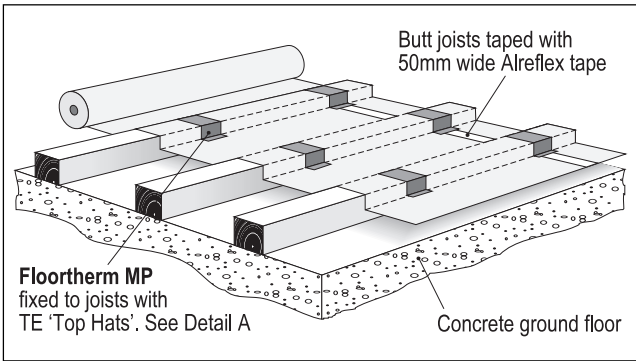

Fig. 2
B ACROSS BATTENS (see fig. 2)
- 10) As shown in Detail 'A' Floortherm MP is installed over the battens, fixed with the special TE 'Top Hat' channels and pulled tight to create 25mm air gaps above and below the material (see detail A). The 'Top Hat' channels should be fitted at 500mm centres maximum (see fig. 2).
- 11) Subsequent widths of Floortherm MP should be laid over the battens as given in paragraph 8, butted against the previous width and fixed to the battens with the 'Top Hats' as given in paragraph 10 and shown in fig. 2. All butt joints should be sealed with 50mm wide Alreflex s/a aluminium tape.